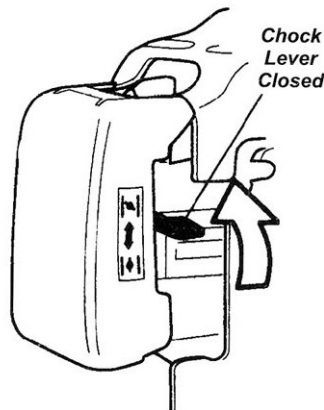

figure 27
4. Choke the engine by moving the choke lever up to the "closed" position. See Figure 27.